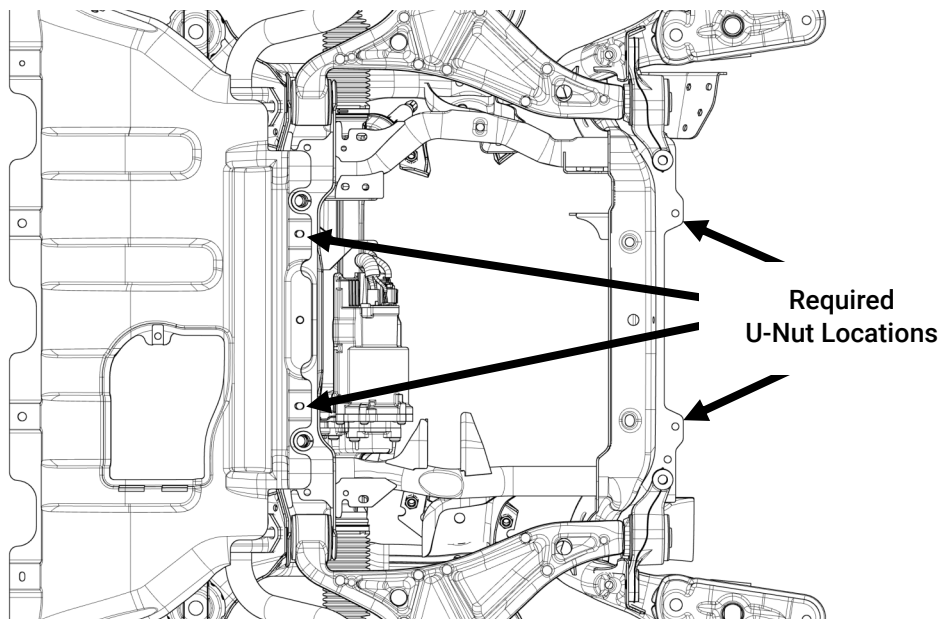

Figure 1
- B. Remove any factory u-nuts that are in the positions other than those indicated in Figure 1.
- A. Ensure u-nuts are installed in the (4) locations indicated in Figure 1 on the previous page. New u-nuts [3X273] are provided if the OEM u-nuts are not present or are not in a serviceable condition.
- B. Prepare the hardware near the locations where it will be needed. The (2) longer hex bolts [3X272] go towards the front of the vehicle and the (2) shorter hex bolts [3X271] go towards the rear of the vehicle.